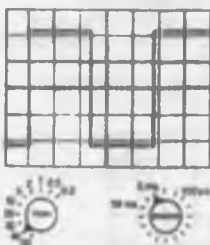

Figure 10.19
- 1 For the square voltage waveform displayed on a c.r.o. shown in Fig. 10.19, find (a) its frequency, (b) its peak-to-peak voltage